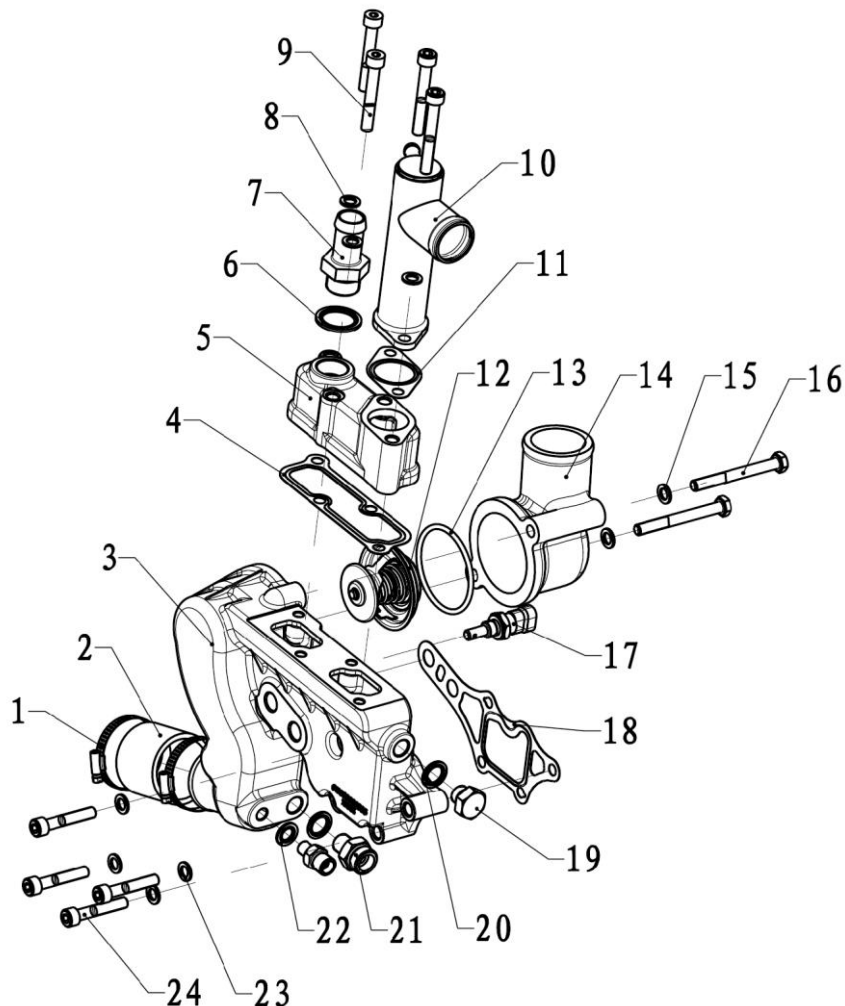

Fig. 4-6 Water outlet pipe subassembly and installation location schematic
- For further removal of water-outlet pipe, refer to the fig. 4-6.